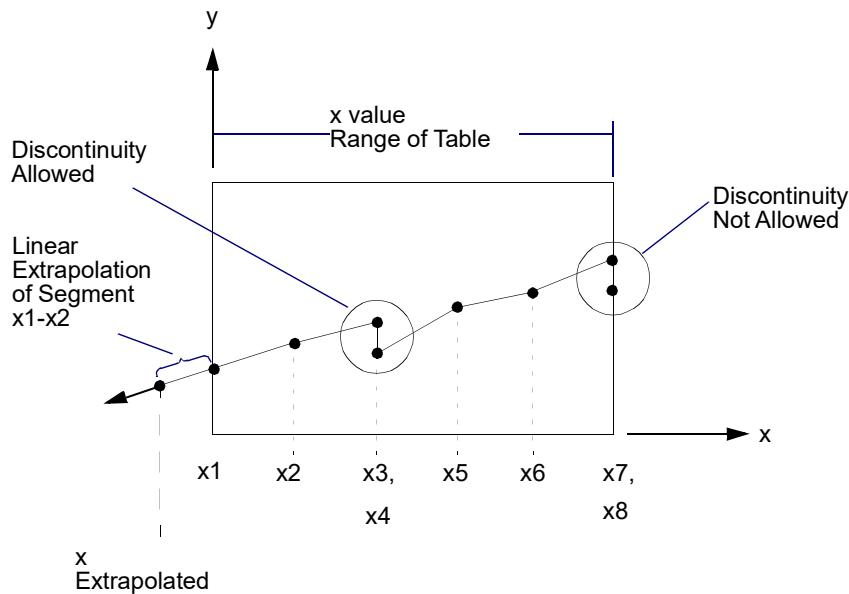

Figure 9-160 Example of Table Extrapolation and Discontinuity
2. Discontinuities may be specified between any two points except the two starting points or two end points. For example, in Figure 9-160 discontinuities are allowed only between points x2 through x7. Also, if y is evaluated at a discontinuity, then the average value of y is used. In Figure 9-160, the value of y at $x = x_3$ is $y = (y_3 + y_4)/2$. If the y-axis is a LOG axis then the jump at the discontinuity is evaluated as $y = \sqrt{y_3 y_4}$.
where x is input to the table and y is returned. The table look-up is performed using interpolation within the table and extrapolation outside the table using the two starting or end points. See Figure 9-160. The algorithms used for interpolation or extrapolation are: